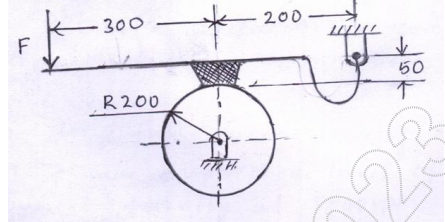

Fig. Q8 (a)
- b. A differential band brake is shown in Fig. Q8 (b). The width and thickness of the steel band are 100 mm and 3 mm respectively and the maximum tensile stress in the band is  $50 \text{ N/mm}^2$ . The coefficient of friction between the friction lining and the brake drum is 0.25. Calculate